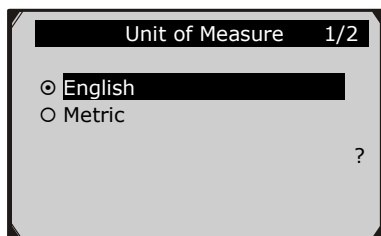

Figure 3.6
- 2) From **Unit of Measure** screen, use the **UP/DOWN** scroll button to select the desired unit of measurement. (Figure 3.6 )